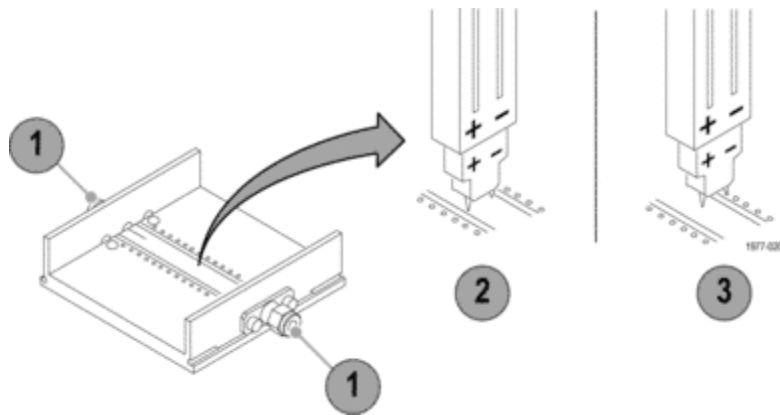

Figure 7: Probe calibration fixture connections
The Probe calibration fixture, Tektronix part number 067-0419-xx, provides a means to check the rise time specification of the probe. (See Figure 7.) A probe positioner can be helpful to keep the probe in contact with the fixture.
17. Probe the DM pins on the Probe Calibration Fixture. A probe positioner may be helpful. (See Figure 7 on page 13.)